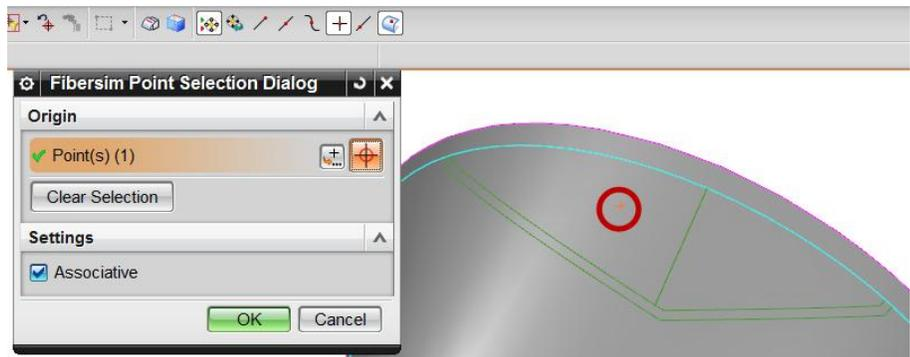

Figure 4–42
- Origin: indicate a point within gap as shown in Figure 4–42
8. Run Net Producibility and create a Net Flat Pattern to display the results as shown in Figure 4–43. Now a full-coverage ply exists with a 1 inch (25.4 mm) overlap.